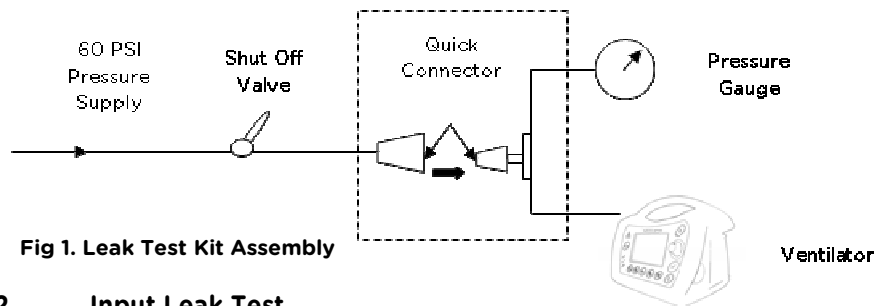

Fig 1. Leak Test Kit Assembly
- 1.3 With the ventilator gas input hose connected to Gas Supply Input on the ventilator and attach the other end of the hose to the ventilator connection on the assembled leak test kit as shown in Fig 1.